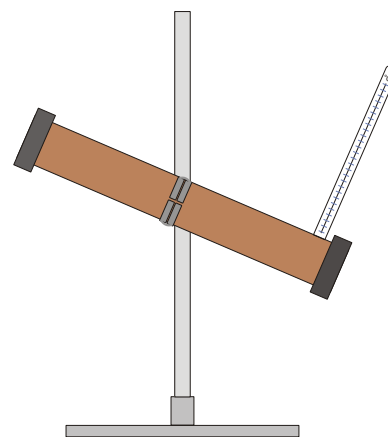

Fig. 1 Measuring the radiation power of the sun
- Set up the bolometer as shown in Figure 1, using the stand, rod and clamps.